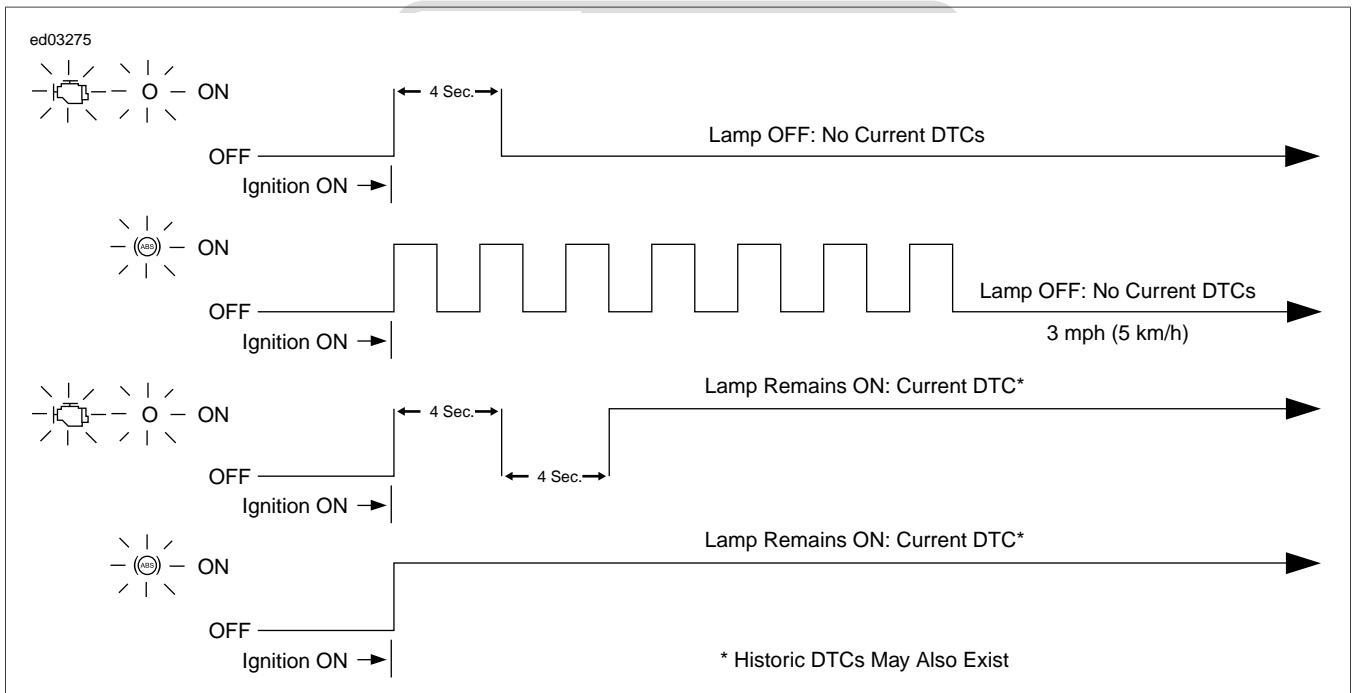

Figure 1-1. Check Engine Lamp and Security Lamp Operation
1. See Figure 1-1. After check engine lamp turns off following the first four second illumination period, one of two events may occur.